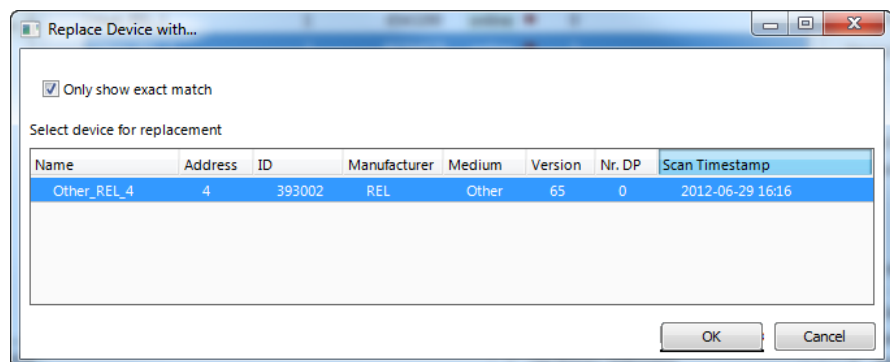

Figure 145: M-Bus Device Replacement Dialog.
5. Select the device which has to be replaced and press the **Replace Device** button. This opens the dialog displayed in Figure 145.